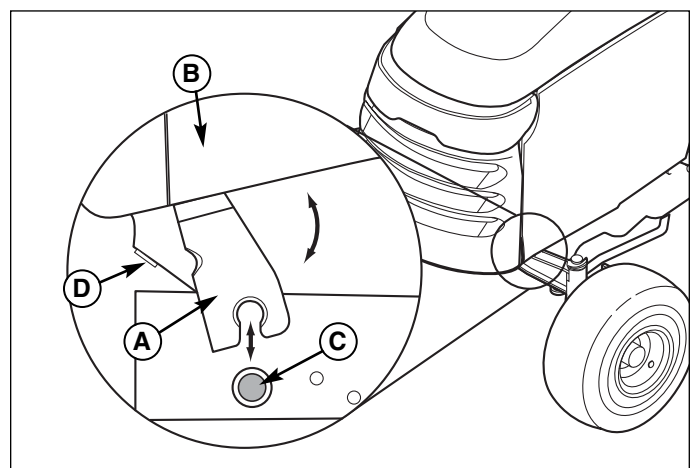

Figure 3. Hood Removal and Installation
3. Rock the hood back slightly and lift hood and grill assembly (B, Figure 3) off pivot posts (C). Set hood on clean 4 x 4's or workbench.